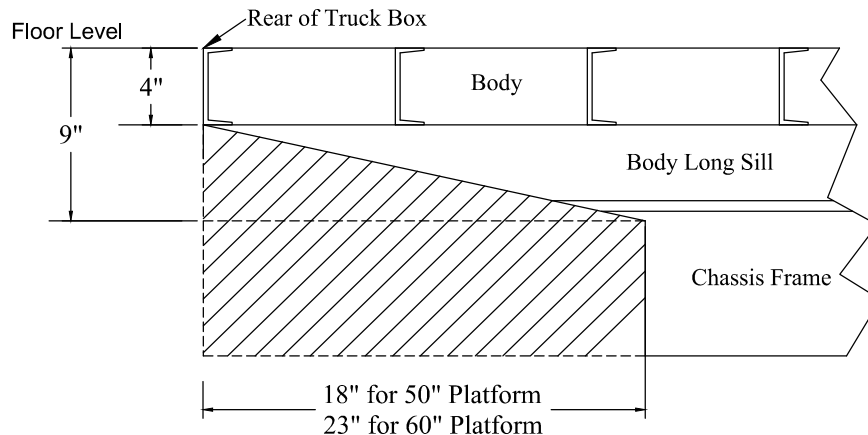

Figure 5: Frame trim dimensions.
**3. Measure** the truck frame for platform folding clearance using the layout chart (Figure 5).